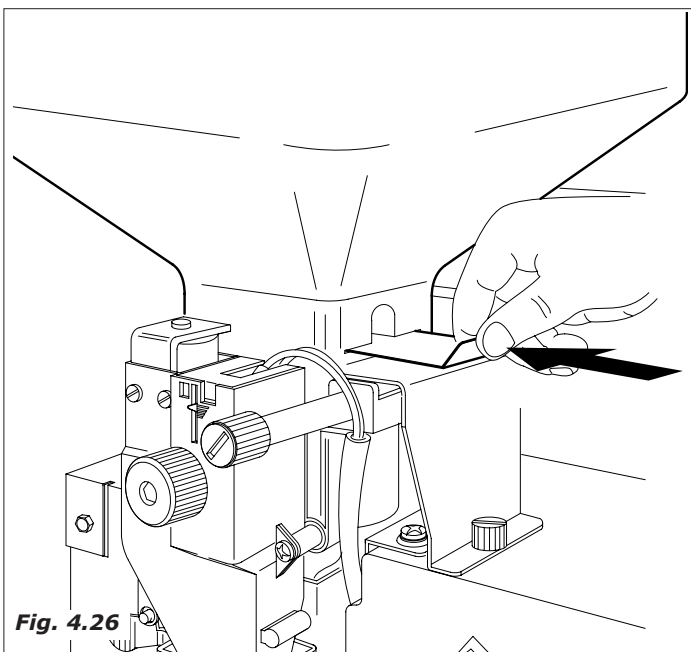

Fig. 4.26
- so as to effect the loading is necessary remove each container (Fig.4.26). Particularly, for the coffee bean container, it is necessary close the chute door before removing the container.